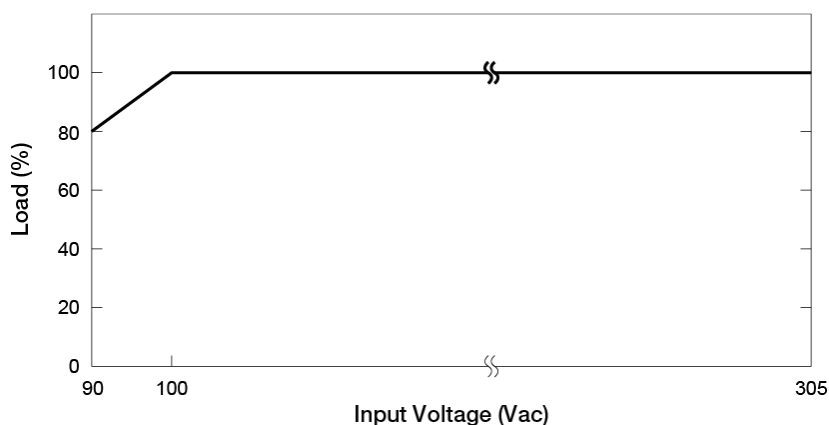

**Fig. 1 De-rating for All Mounting Orientation (All Models)**
1. Power supply components may degrade, or be damaged, when the power supply is continuously used outside the shaded region, refer to the graph shown in Fig. 1.
- If the device is continuously operating outside the shaded region shown in Fig. 1. The device may be damaged or degraded.